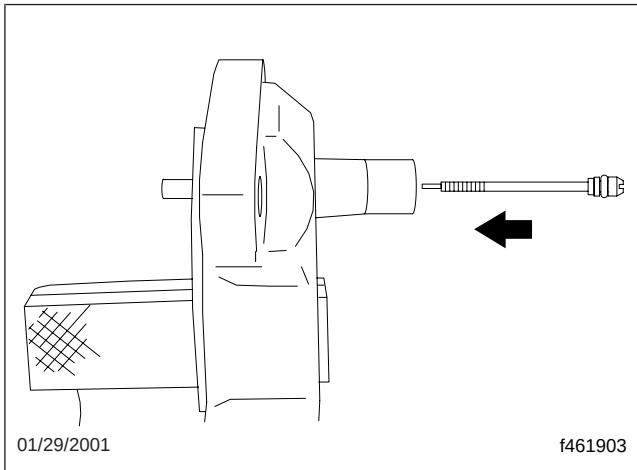

Fig. 3, Plunger Body Installation
9. Cover the O-ring on the new plunger assembly with a light coat of grease. Install the plunger body through the spring pin; see Fig. 3.